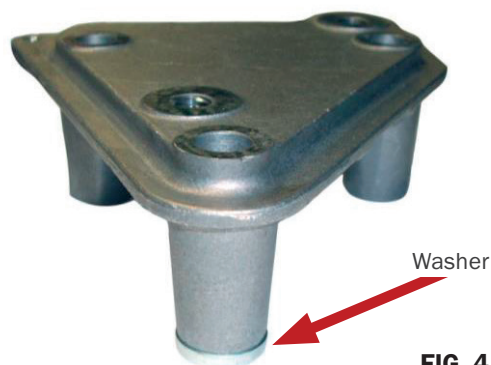
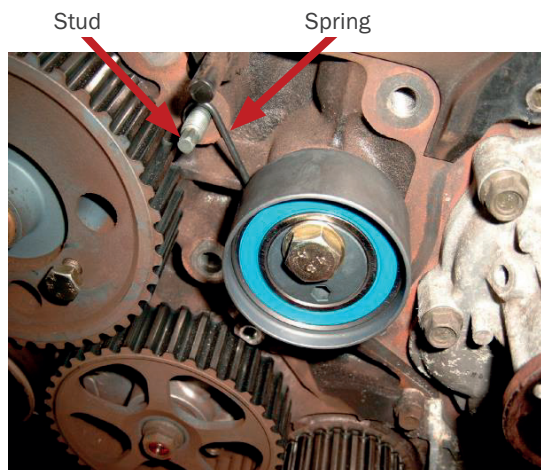

FIG. 4
FIG. 5
K025563XS is supplied with a washer to compensate the lost thickness of the base plate under the shorter leg of the early engine support bracket as in Fig. 4, and contains a stud which is needed to hook the new tensioner spring on (Fig. 5). This K02 can always be used: up to engine nr 328703, using the washer and the stud; and from engine nr 328704 without the washer and the stud.
3. Insert and torque (18.6 Nm) the stud at the right hand side of the injection pump pulley (Fig. 5).
11. K025563XS: stick the washer (Fig. 4) on the bottom engine support leg (using fixing glue), in order to avoid losing the washer when loosening the support bracket bolt later. K035563XS: install new bracket.